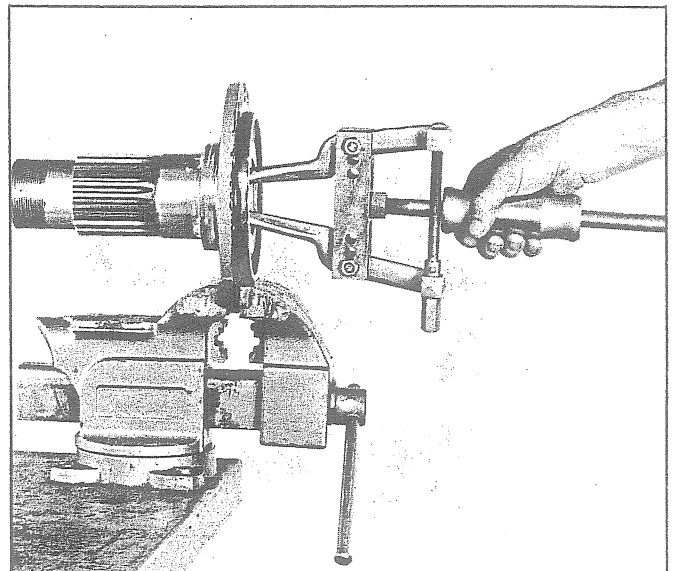

Fig. 43 - Removing Oil Seal and/or Bushing
- Place the spindle in a vise and remove the oil seal with a sliding hammer puller arrangement as shown in Fig. 43.
- Remove bushing using a suitable puller as shown in Fig. 43.